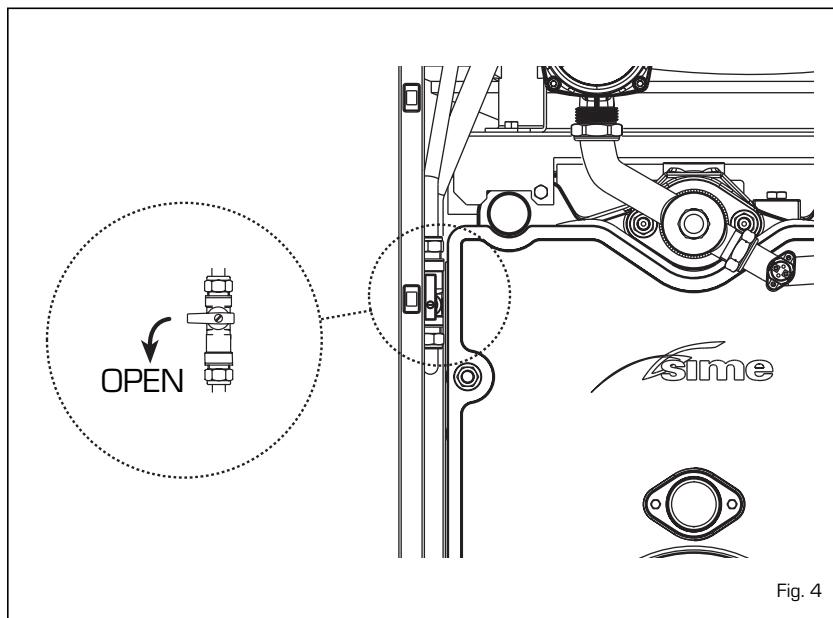

Fig. 4
2.2.1 System filling (fig. 4)
the block screw of the shutoff valve. Upon completing the filling, put the screw back to its original position. At the end of the operation make sure that the tap is closed [fig. 4].